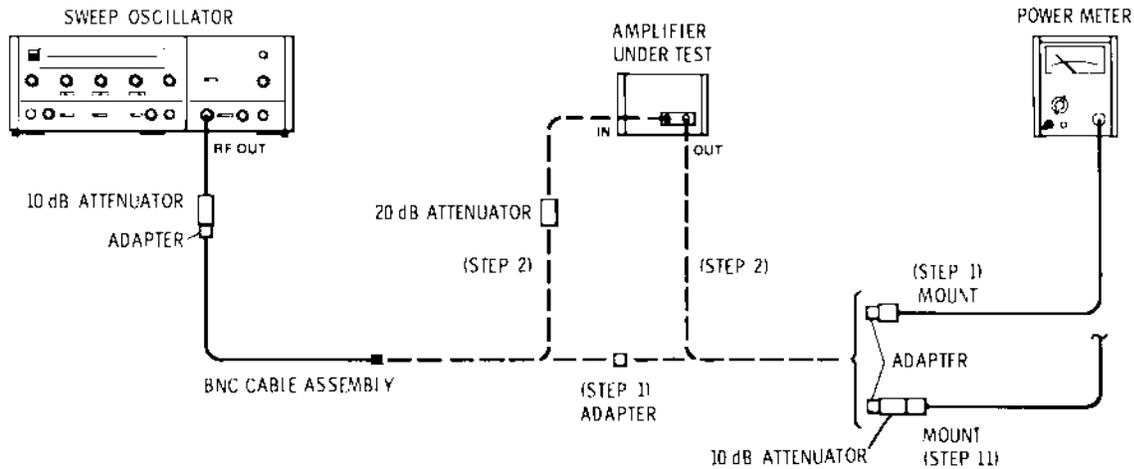

Figure 3
- 1 To measure gain flatness and mean gain, connect the equipment as shown in Figure 3. Set the sweep oscillator for a 1.3 GHz, leveled, CW signal. Set the signal level for  $-10$  dBm out of the 10 dB attenuator (read on the power meter).
- 11** To check compression, connect the power meter mount, through the 10 dB attenuator, to the amplifier OUTPUT as shown in Figure 3. Connect the sweep oscillator, through the 20 dB attenuator, to the amplifier INPUT. Set the sweep oscillator for a leveled, 650 MHz, CW signal and set the signal level (read on the power meter) as follows: